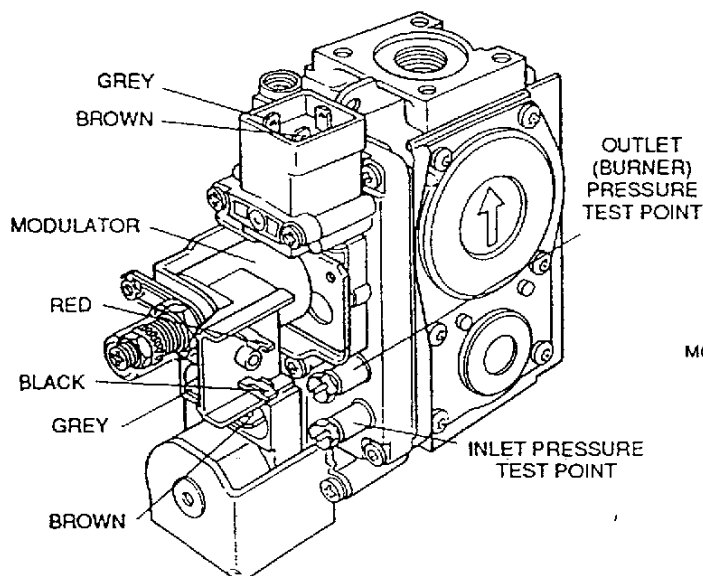

Fig. 25
- Reassemble in reverse order ensuring that the black and red wires (low voltage) are connected to the modulator valve (see Figs. 25 & 26). Polarity is not important. The brown and grey wires (240 volts) MUST be connected to their corresponding connectors on the first solenoid valve.
MODULATING COIL (See Fig. 25)
9. FIRST SOLENOID VALVE COIL (See Fig. 25)
10. SECOND SOLENOID VALVE (See Fig. 25)